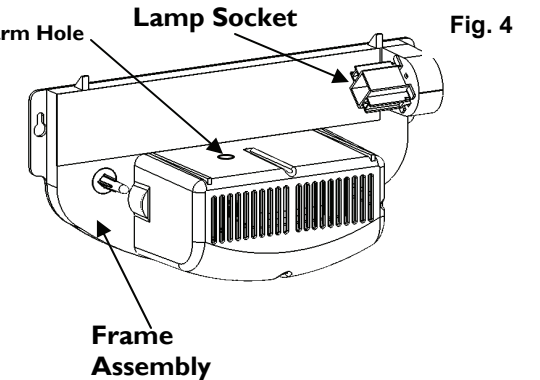

Fig. 4
3. Insert new lamp and firmly snap-in socket (see page 5, Fig. 4 & 5).
1. Remove the ultraviolet lamp from the box. Insert the lamp into the lamp socket by aligning the pins of the lamp with the light socket and snap in firmly. (Fig. 4 & 5) **NOTE:** It is recommended to replace the ultraviolet lamp every **eight months** of use to maintain optimum performance of the unit. After this time the lamp may still light but is no longer emitting enough of the special UV light frequency required for an effective insect catch.
The Paraclype Fly Patrol™ has an out of paper sensor that emits an audible beep when it is time to replace the cartridge. The alarm is triggered when the paper no longer covers the alarm hole in the top of the motor enclosure. (see Fig. 4)